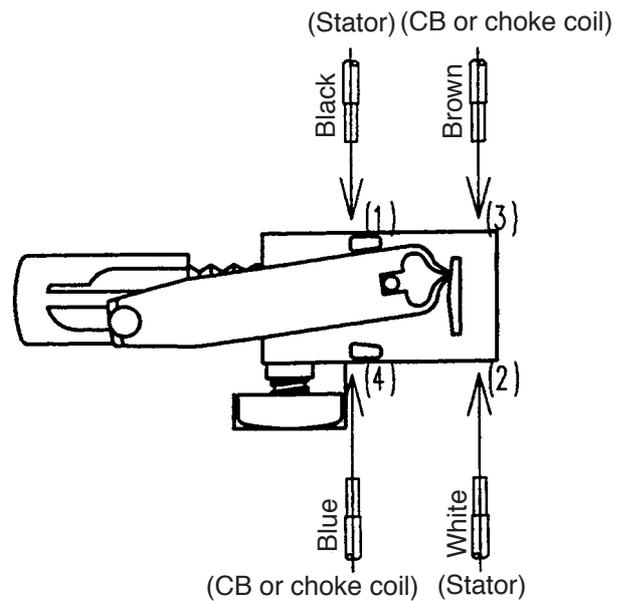

Fig. 28
Insert the lead wire (black) coming from the stator into the terminal (1) of the reversing switch, and the lead wire (white) into the terminal (2) as shown in Fig. 28.